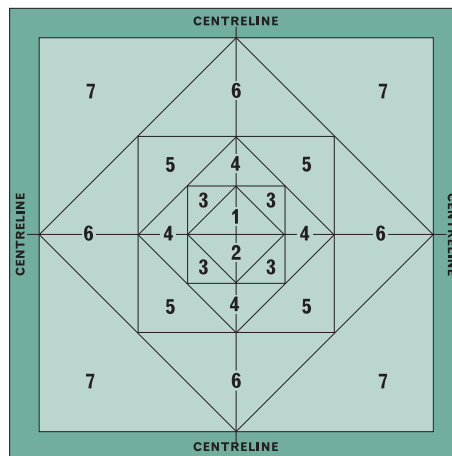

Figure 14 Floor layout
**C.** Repeat this sequence on the opposite side of the centreline shown as area 2 in Figure 14.
Continue working in larger and larger pyramids, as shown in Figure 14, until only the perimeter tiles require fitting.